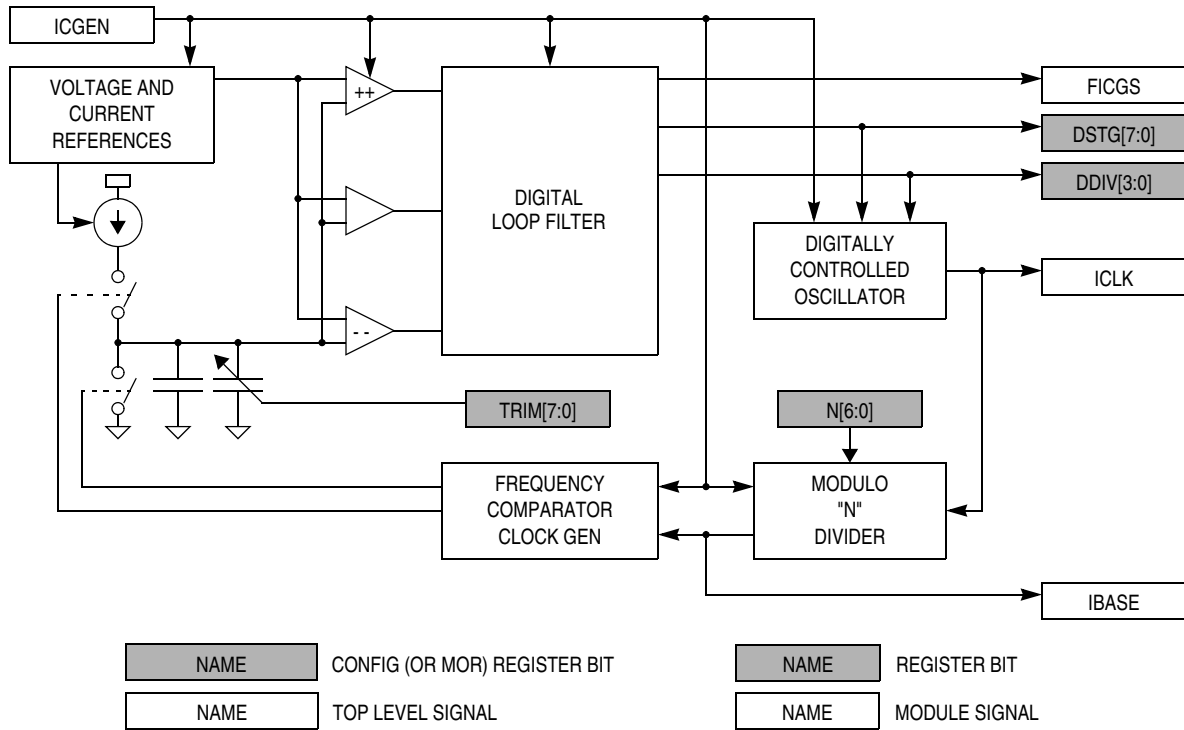

Figure 7-2. Internal Clock Generator Block Diagram
The ICG, shown in Figure 7-2, creates a low frequency base clock (IBASE), which operates at a nominal frequency (f_{NOM}) of 307.2 kHz \pm 25%, and an internal clock (ICLK) which is an integer multiple of IBASE. This multiple is the ICG multiplier factor (N), which is programmed in the ICG multiplier register (ICGMR). The ICG is turned off and the output clocks (IBASE and ICLK) are held low when the ICG enable signal (ICGEN) is clear.